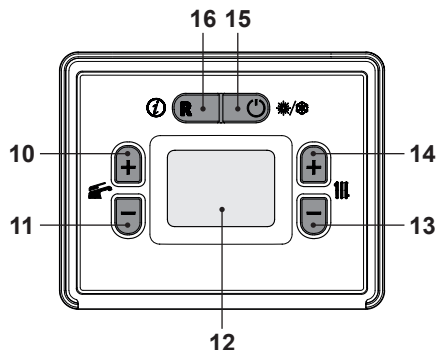
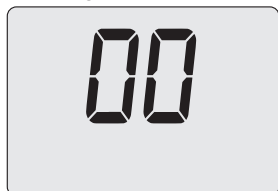

Fig. 9.3
Fig. 9.5
- By using buttons 13 or 14 (Fig. 9.3) it is possible to modify the value of parameter A01 (Fig. 9.5).
- Press 10 or 11 (Fig. 9.3) to confirm the value entered and return to the list of parameters (Fig. 9.4).
- Press the 15 button (Fig. 9.3) to exit "programming mode".